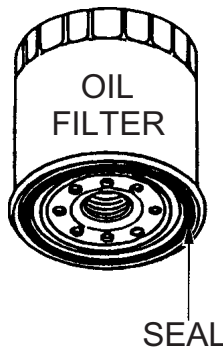

Figure 16. Oil Filter
1. Replace the engine oil filter (Figure 16) every 200 hours.
2. Be sure to coat the seal (Figure 16) of the new oil filter with clean engine oil.